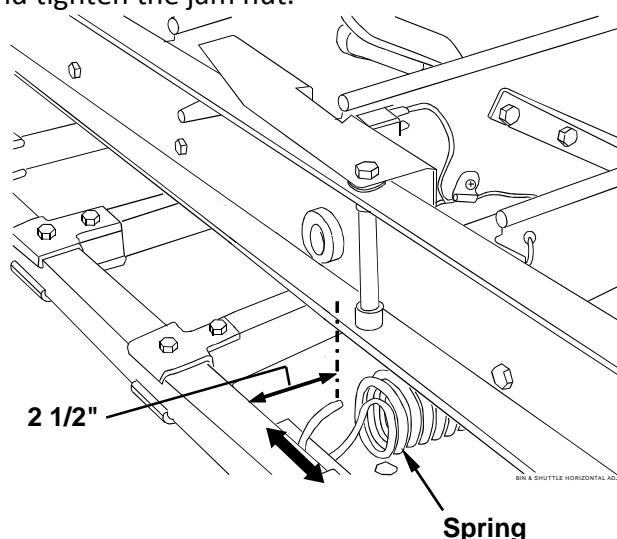

Figure 4.2-32
1. With Durabin 2 with Optical Bin Switch, there should be approximately 2 1/2" between the back edge of the Bin's back channel and the leading edge of the Shuttle assembly measured at the center of the Bin (see Figure 4.2-32). Make adjustments if shuttle malfunctions are occurring, i.e. double shuttling or a pin is not shuttling. Adjustment procedure - For double shuttling: Lengthen shuttle rod until one pin does not shuttle, then shorten shuttle rod by 1 to 2 turns of the rod end. For a pin not shuttling, shorten the shuttle rod by 1 to 2 turns of the rod end. To adjust,